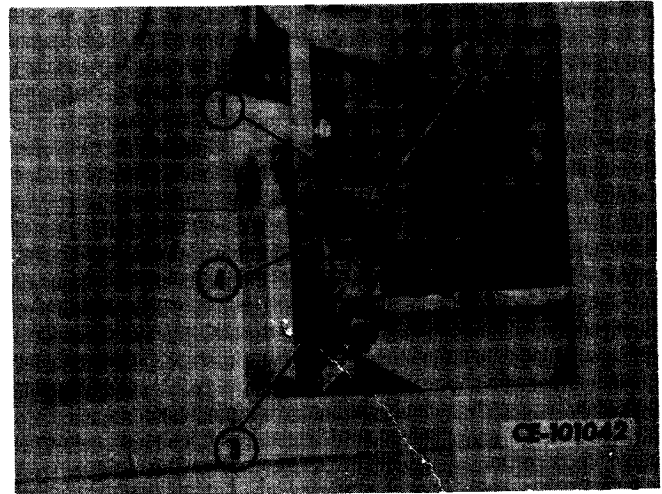

Figure 4-10
Remove cap screws (1, Fig. 4-10) that secure pin support caps (2) to the pin supports (3). Remove caps. Block transmission securely to prevent tipping.